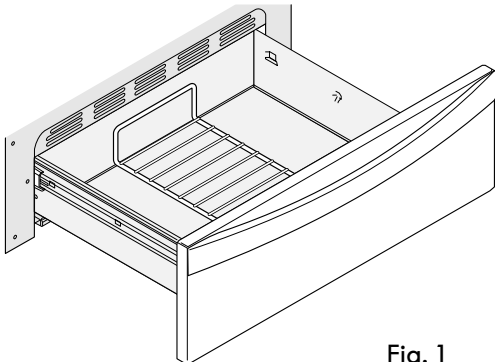

Fig. 1
Since the bread dough will nearly double in volume be sure to place the prepared dough in a large bowl. Arrange the warmer drawer rack in the downward position (See Fig. 1) and place the bowl with dough on the warmer drawer rack.
1. Arrange the warmer drawer rack in warmer drawer (See Fig. 1) and place bread dough in a large bowl on warmer drawer rack. Close warmer drawer.